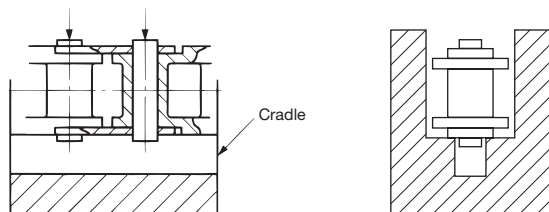
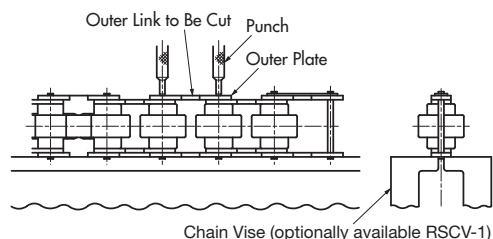

Figure 15: Cross Section Showing Poly Steel Chain Set in Cradle
Figure 16: Disconnecting Poly Steel Chain
- 1) Place the outer plate of the chain in a cradle, position a special punch on the head of the pin (see photo in Figure 16 below), and lightly strike with a hammer (Figure 15).